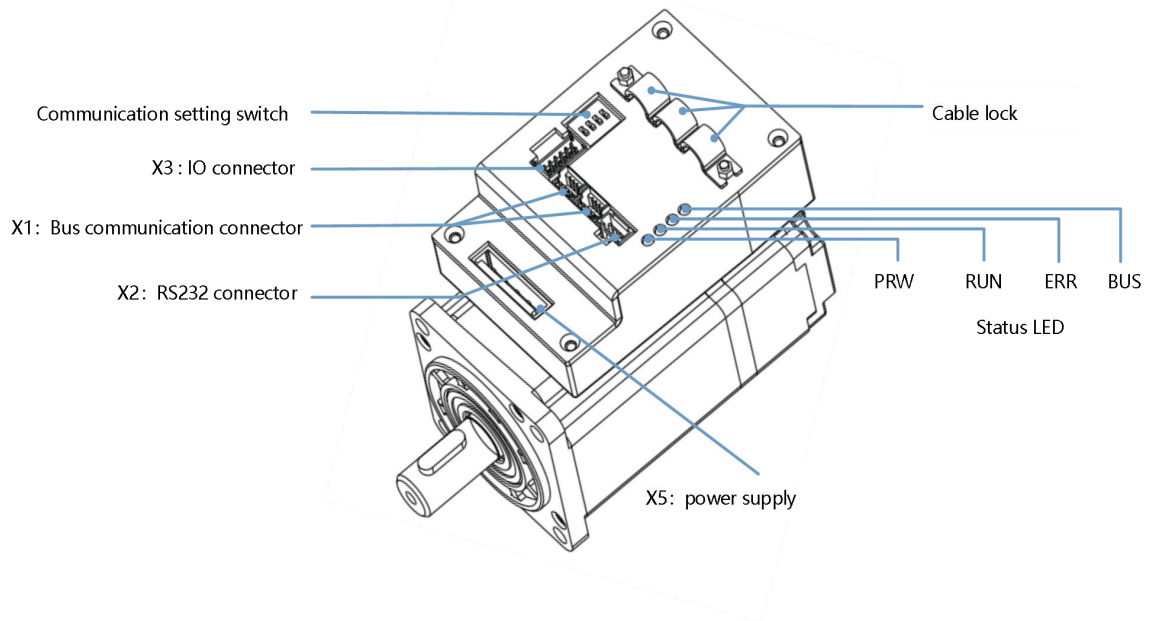
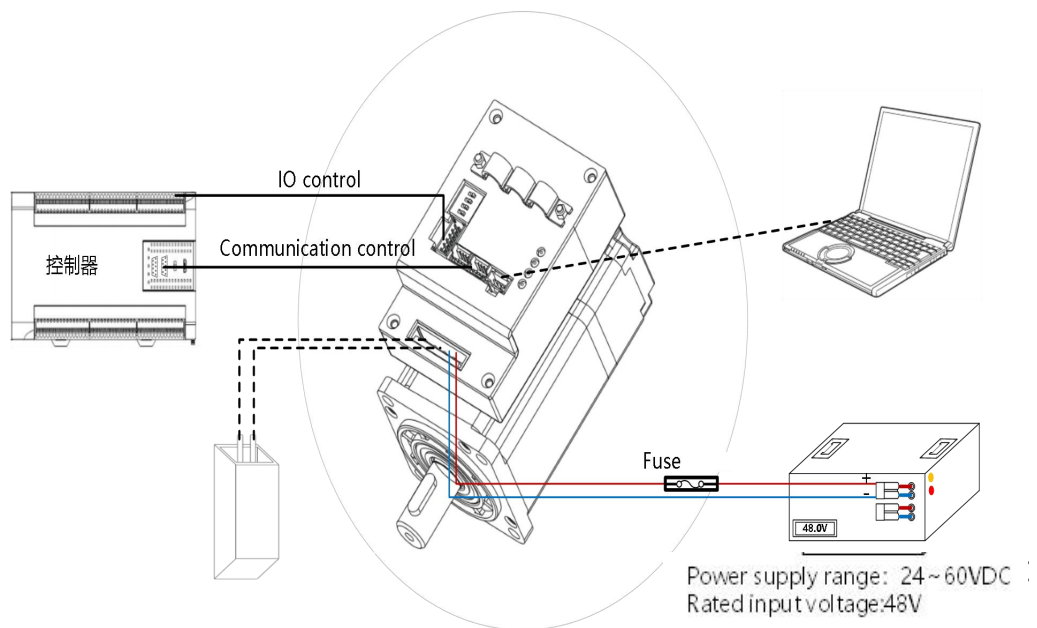

Figure 3-1 MD Series Interface Definition
Figure 3-2 MD series external wiring diagram
- The interface definition for different power products in MD series is the same, with MD60(200W) as an example in figure. 3-1 and figure 3-2